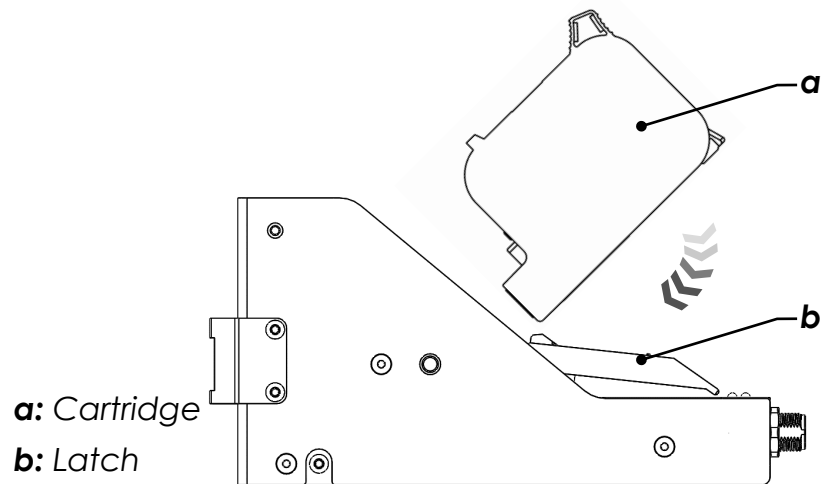

Figure 33
- Open the Green latch on print-head as shown in Figure 33.
- Carefully insert the cartridge into the print-head and make sure that it is perfectly in place as shown in Figure 33. Avoid any extra force to prevent damage on cartridge or driver pins.